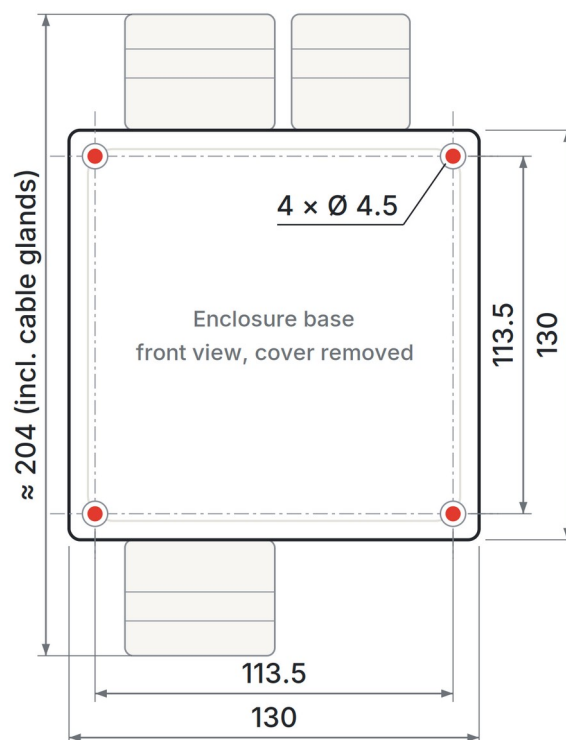

Figure 4: Drilling template, dimensions in mm (figure not to scale; hole spacings taken from the 3D model)
A distance of at least 100 mm must be maintained between the EC-Swap enclosure and any cable ducts, enclosures and other walls located above, below and at the sides. This distance allows the heat generated by the EC-Swap to be dissipated correctly and prevents electromagnetic interference that could disturb its operation. Also allow space for the cable glands and the bending radius of the cables: the overall height including cable glands is approximately 204 mm (Figure 4).
The four fixing holes (Ø 4.5 mm, spacing 113.5 × 113.5 mm, Figure 4) are located at the bottom of the corner wells of the enclosure (Ø 8 mm), under the cover screws: they are only accessible with the cover removed. Use Ø 4 mm screws whose head fits into the well (Ø 7.5 mm max.), for example cheese-head screws, with wall plugs suitable for the substrate.
2. Hold the EC-Swap level against the wall at the desired location, or transfer the dimensions of the drilling template (Figure 4).